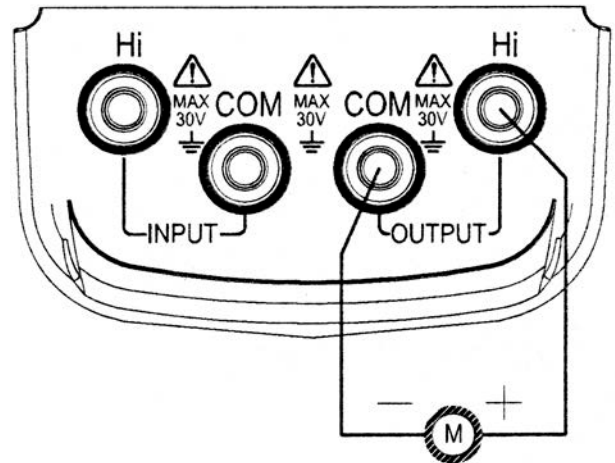

Figure 5-1
- ✎ 1. Insert one end of the test lead into the OUTPUT terminal of the instrument and connect the other end to the input terminal of the device under test. See Figure 5-1.